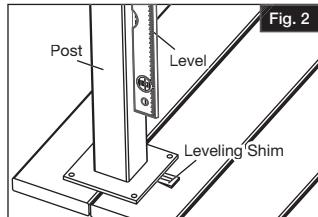
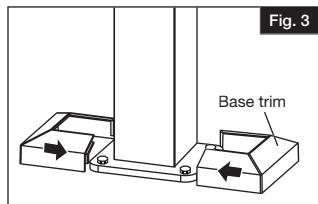

Fig. 2
Fig. 3
- c. Plumb and level the posts using leveling shims (included) (Fig. 2), secure the posts in place with appropriate fasteners (sold separately) and install base trim on each post (Fig. 3).